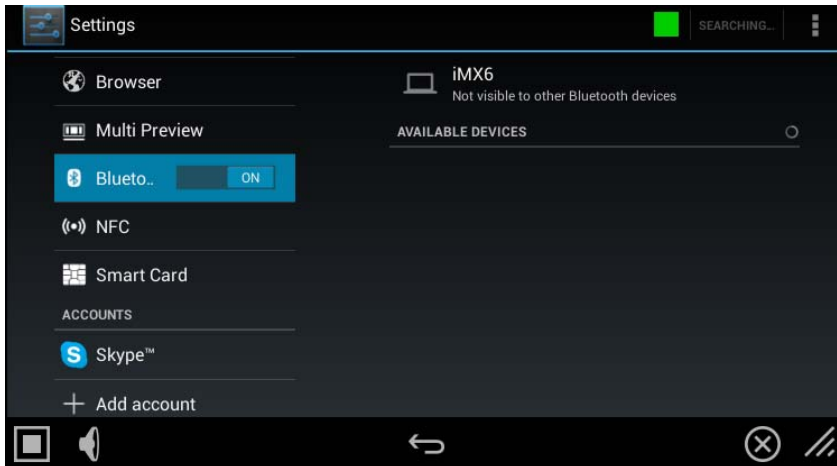

FIG. 73 Bluetooth page - Bluetooth Enabled
1. Press the **Bluetooth** menu item to toggle the function ON (FIG. 73):